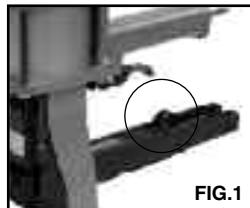
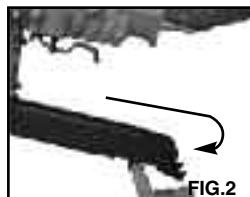

FIG.1
FIG.2
1. With the air supply disconnected, pull back the staple pusher using the hook (Fig 1) to the end of the magazine and then underneath (Fig 2).